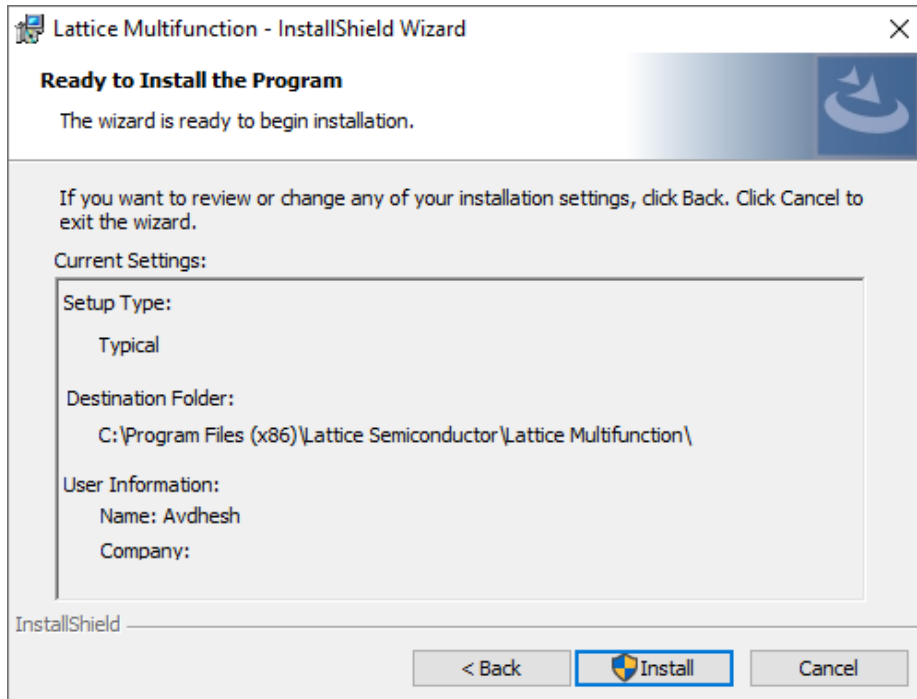

Figure 5.17. Windows Installer: Summary Page
4. The installation summary page is shown in Figure 5.17. Click **Install**.